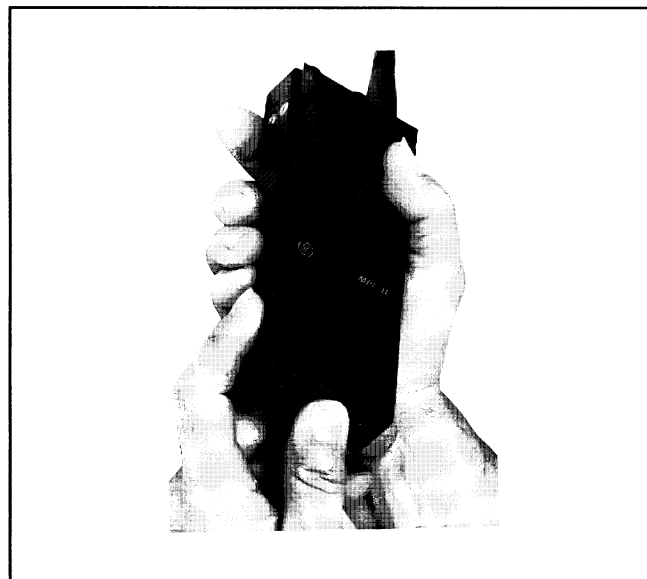

Figure 1 - Removing The Battery Pack
2. Place thumb on bottom of battery pack and press battery pack toward the top of radio as shown in Figure 1.